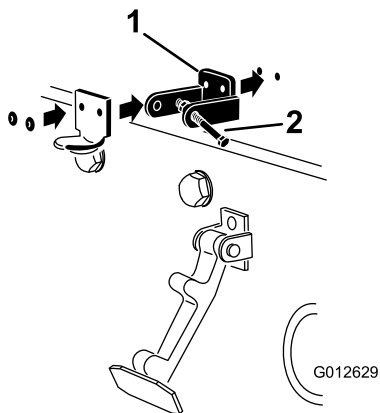

Figure 6
3. While aligning the mounting holes, position the CE lock bracket and the hood latch bracket onto the hood. The lock bracket must be against the hood (Figure 6). Do not remove bolt and nut assembly from the lock bracket arm.
5. Rivet the brackets and the washers to the hood (Figure 6).